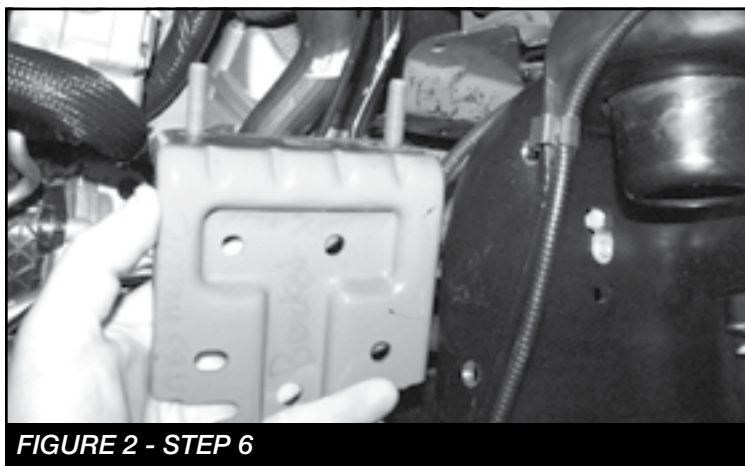

FIGURE 2 - STEP 6
5. **(DRIVER SIDE ONLY)** Remove the driver side inner fender liner. Locate the ABS module mounted to the factory spring perch. Remove and save the bolt attaching the bracket to the front of the spring perch. Using a 13mm wrench remove the (2) nuts that attach the L bracket together. Then using the same 13mm wrench remove the nuts attaching the same bracket to the back side of the factory spring perch. Discard the factory bracket and save the hardware. **2020 Models** - Remove the factory bolt assembly attaching the ABS module to the coil bucket. **SEE FIGURE 2**